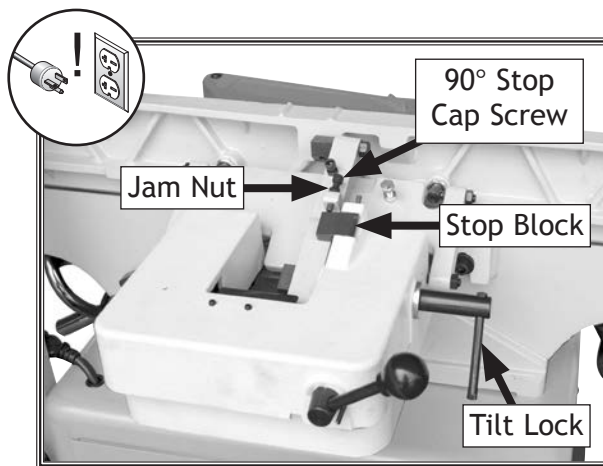

Figure 58. Fence set to 90°.
2. Loosen fence tilt lock, rotate stop block down, and position fence approximately 90° onto stop cap screw (see **Figure 58**).
4. Loosen jam nut on 90° stop cap screw and adjust cap screw until fence is exactly 90° while cap screw is resting on stop block (see **Figure 58**). Verify angle, then retighten jam nut.